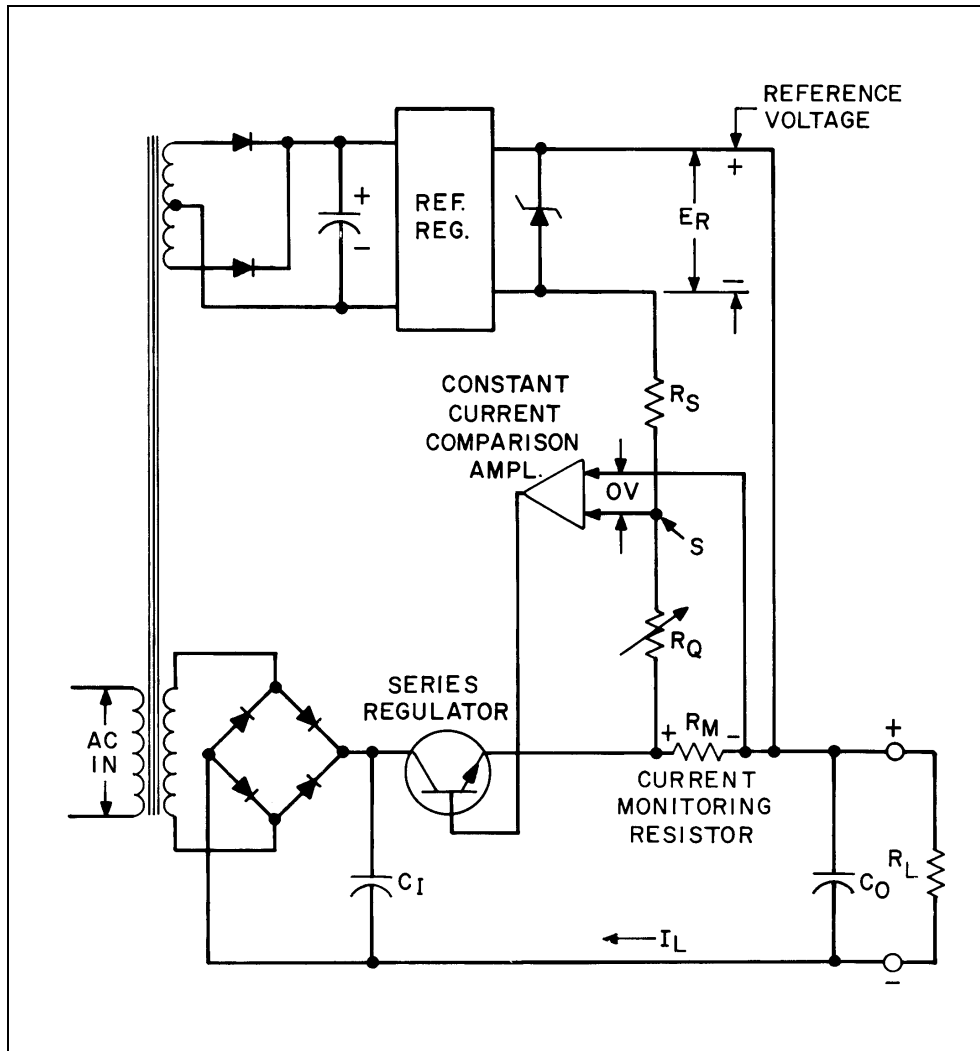

Figure 16. Constant Current Power Supply
Figure 16 illustrates the elements constituting a basic constant current power supply using a linear type regulator. As mentioned previously, many of these elements are identical to those of a constant voltage supply with the only basic difference being in their output sensing techniques. While the constant voltage supply monitors the output voltage across its output terminals, the constant current supply monitors the output current by sensing the voltage drop across a current monitoring resistor (RM) connected in series with the load .
The concepts and circuits used in basic constant current power supplies were shown in Figure 16. This section is devoted to the refinements necessary to upgrade a basic constant current supply to a *precision* class, with characteristics that more closely approach an ideal *current source*.